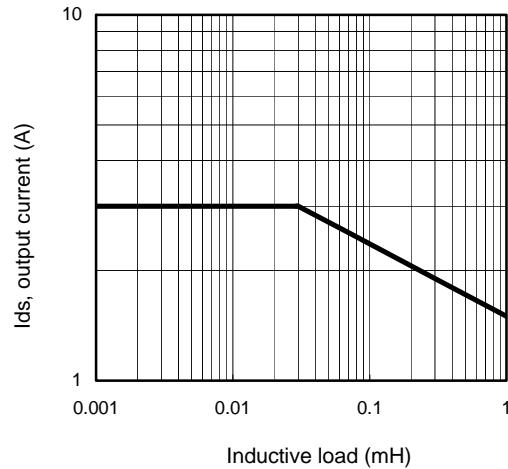

Figure 11 – Max. ouput current (A) Vs Inductive load (mH)
(1) Higher inductance is possible if maximum load current is limited - see figure 11